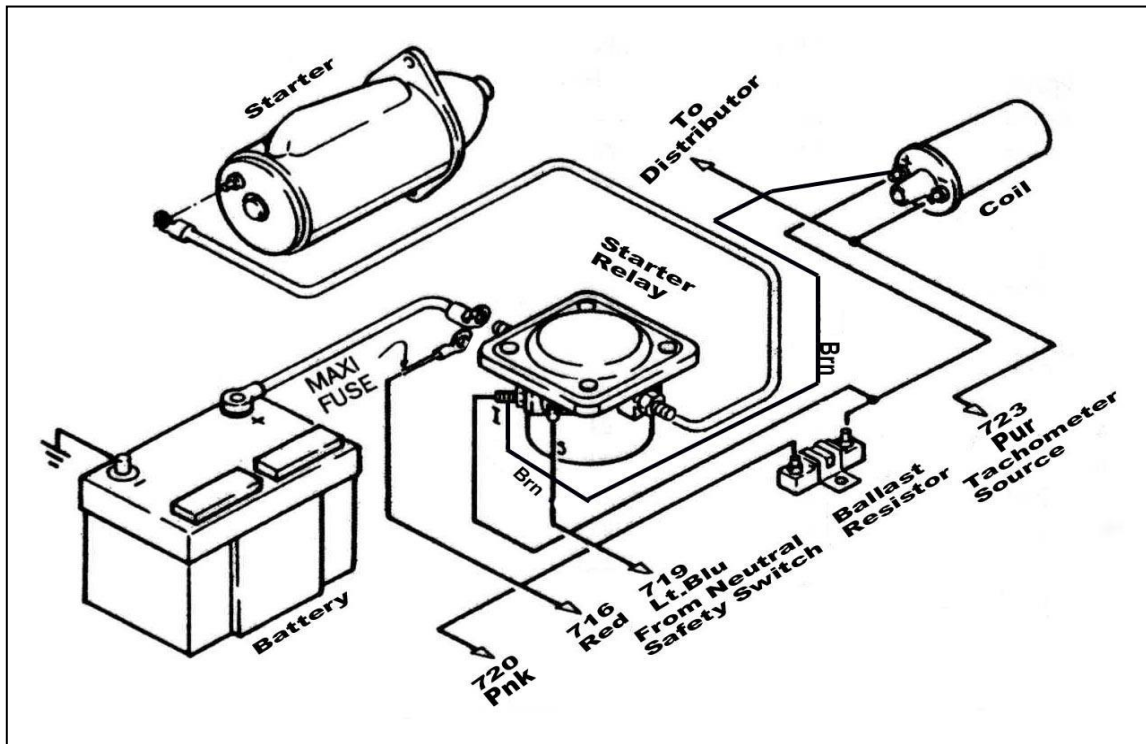

Figure 10.1 Ford Ignition (Start/Run) System
- 10.2** Ford Ignition (Start/Run) System. See Figure 10.1.